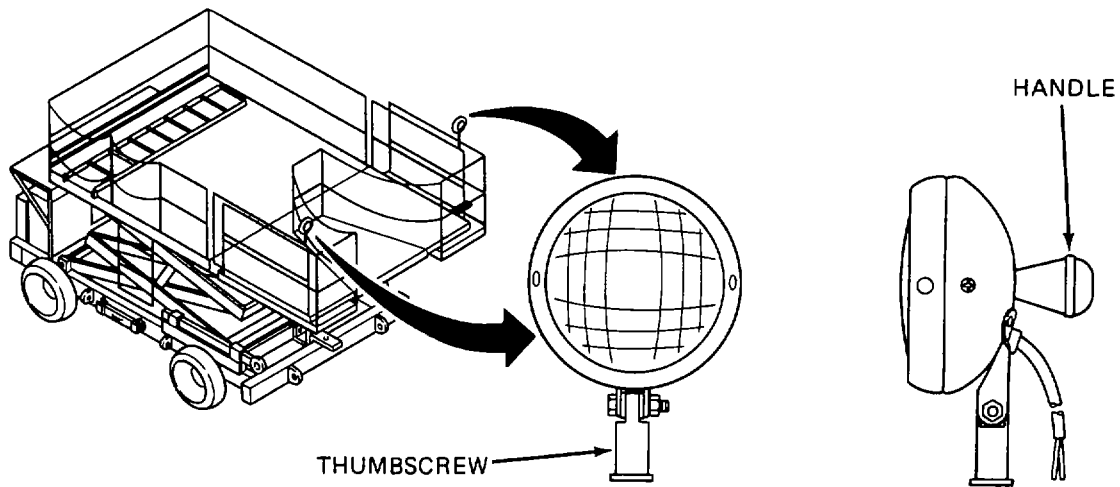

Figure 2-13. Platform Light.
- (2) Use handle to turn lights to desired position. See Figure 2-13.
- (3) Loosen thumbscrew and remove light for use as hand light or to relocate on deck extension bracket.
- (4) Unplug lights to turn them off.